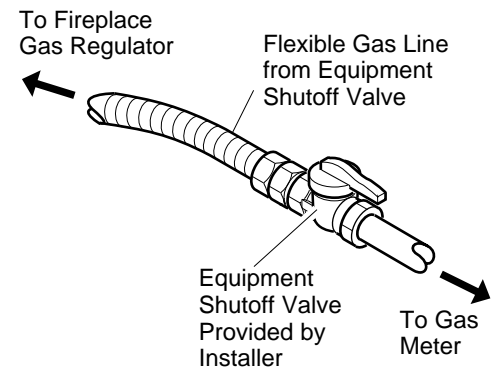

Figure 19 - Attaching Flexible Gas Lines Together
NOTICE: Most building codes do not permit concealed gas connections. A flexible gas line is provided to allow accessibility from the fireplace (see Figure 19). The flexible gas supply line connection to the equipment shutoff valve should be accessible.
4. Attach flexible gas line to gas supply (see Figure 19). Check connection of flexible gas line attached to gas regulator of fireplace (see Figure 19).